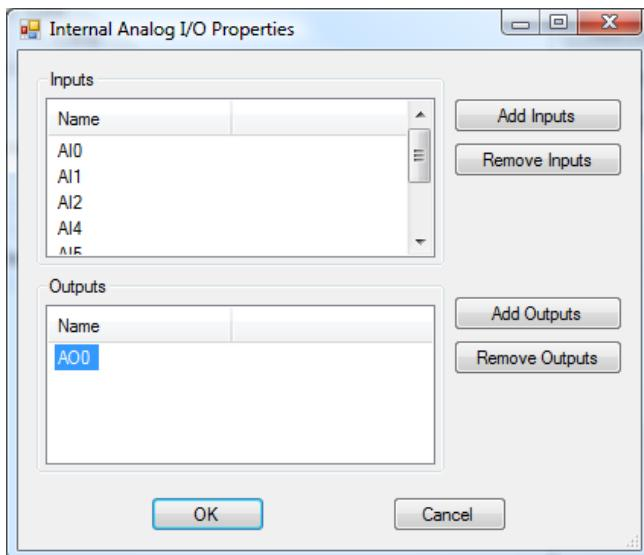

Figure 2-9 - A00 Installed in Analog I/O
- The Analog Output A00 is now shown in the outputs pane. Refer to Figure 2-9. Click **OK** to close the Internal Analog I/O Properties. Click **OK** to close the *ICM-BB-P13-XX Properties*.